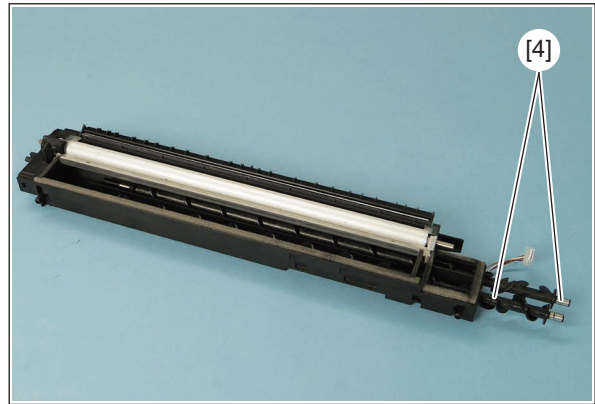

Fig. 4-168
- (1) Insert a fine screwdriver into the depression of the oil seal to take it out.
- (2) Push in a new oil seal parallel to the frame or bushing (Refer to Fig.4-168).
- (3) Apply the grease (Alvania No.2; amount of 2 rice grains) on entire surface of the oil seal evenly.